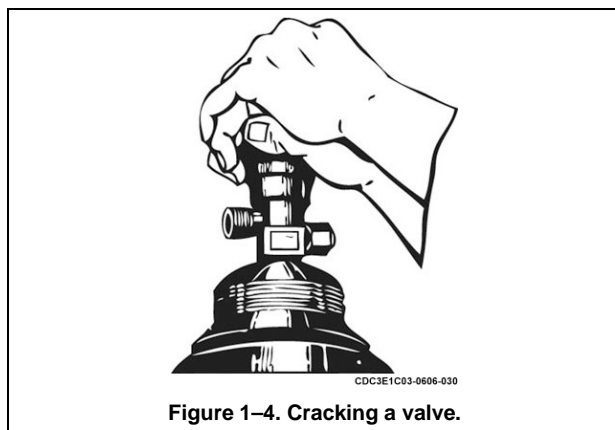

Figure 1-4. Cracking a valve.
2. Open (crack) each cylinder outlet valve slightly for an instant to blow out any dirt lodged in the outlet nipple (fig. 1-4).